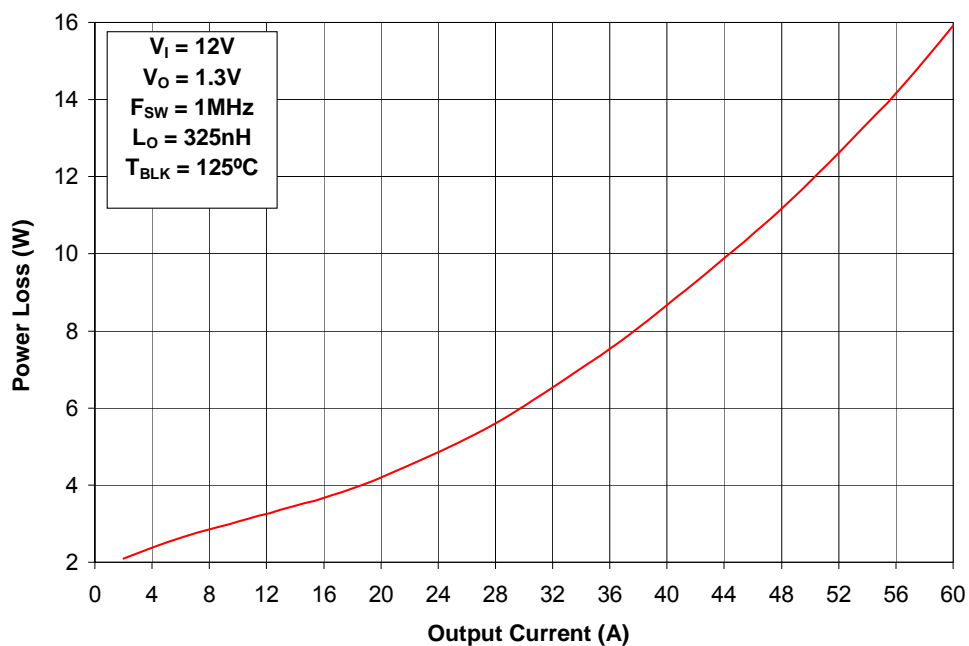

Figure 1 Power Loss Curve
1. Determine the maximum current and obtain the typical power loss from Figure 1
3. The typical power loss under the application conditions is then the product of the power loss from Figure 1 and the normalized values.
(Figure 1) Typical power loss = 12W